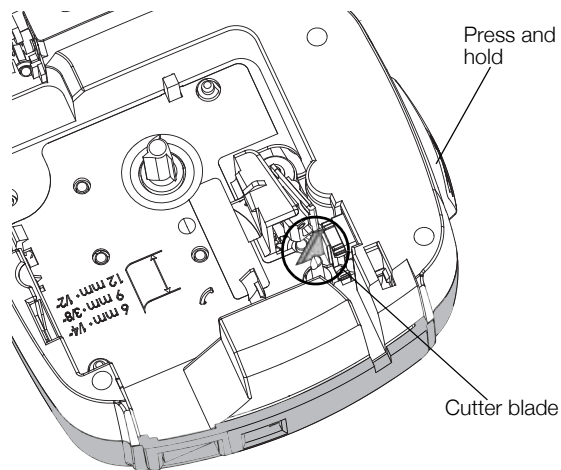

Figure 7
- 2 Press and hold the cutter button to expose the cutter blade. See Figure 7.